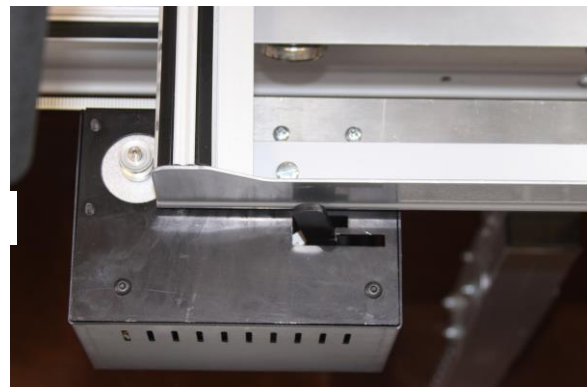

Fig 3
4. Using the M5 x 12mm" screws and washers, place one washer on each screw and drop the screw down through the drilled holes, attaching the motor box on the underside (*Fig 3*).